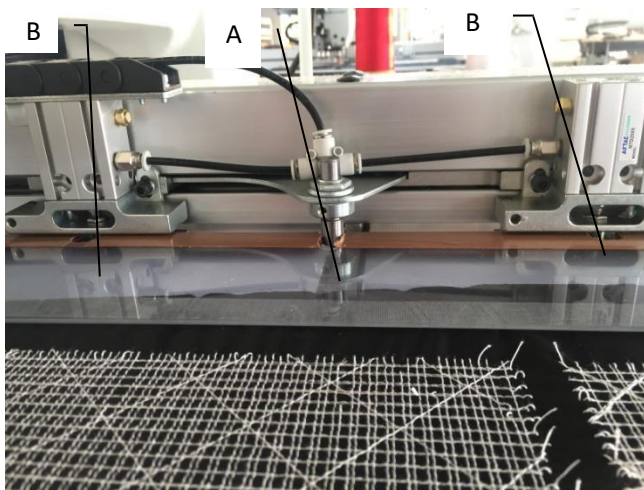

Fig 38
2.18.5.1 As shown in fig. 38, push the empty template (without stitching material) so that one orifice A on the positioning plate 1 of the template is opened on the positioning pin and the other two auxiliary orifices B are stuck on positioning sleeve and pushed to the bottom.